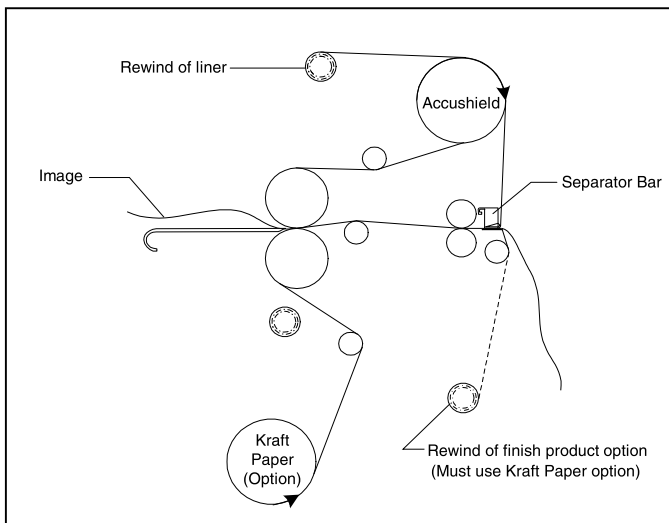

Fig. 45
TIPS FOR ACCUSHIELD (Figure 45)
1. Load the laminator as illustrated in Figure 45.